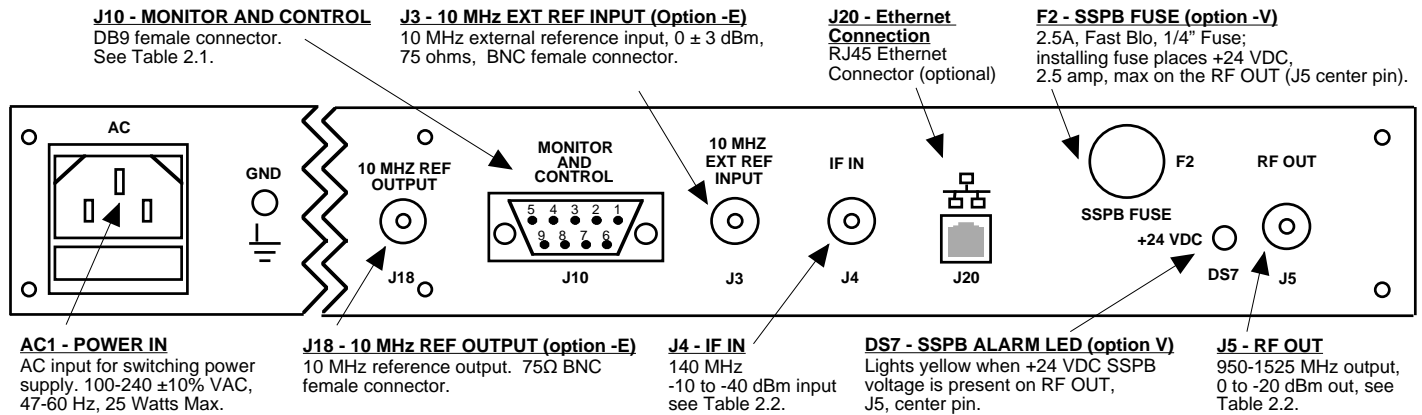

FIGURE 2.1 2015-04 Rear Panel I/O's
2.2 Rear Panel Input/Output Signals - Figure 2.1 shows the input and output connectors on the rear panel.
1. Connect a -10 dBm to -40 dBm signal to IF In, J4 (Figure 2.1)